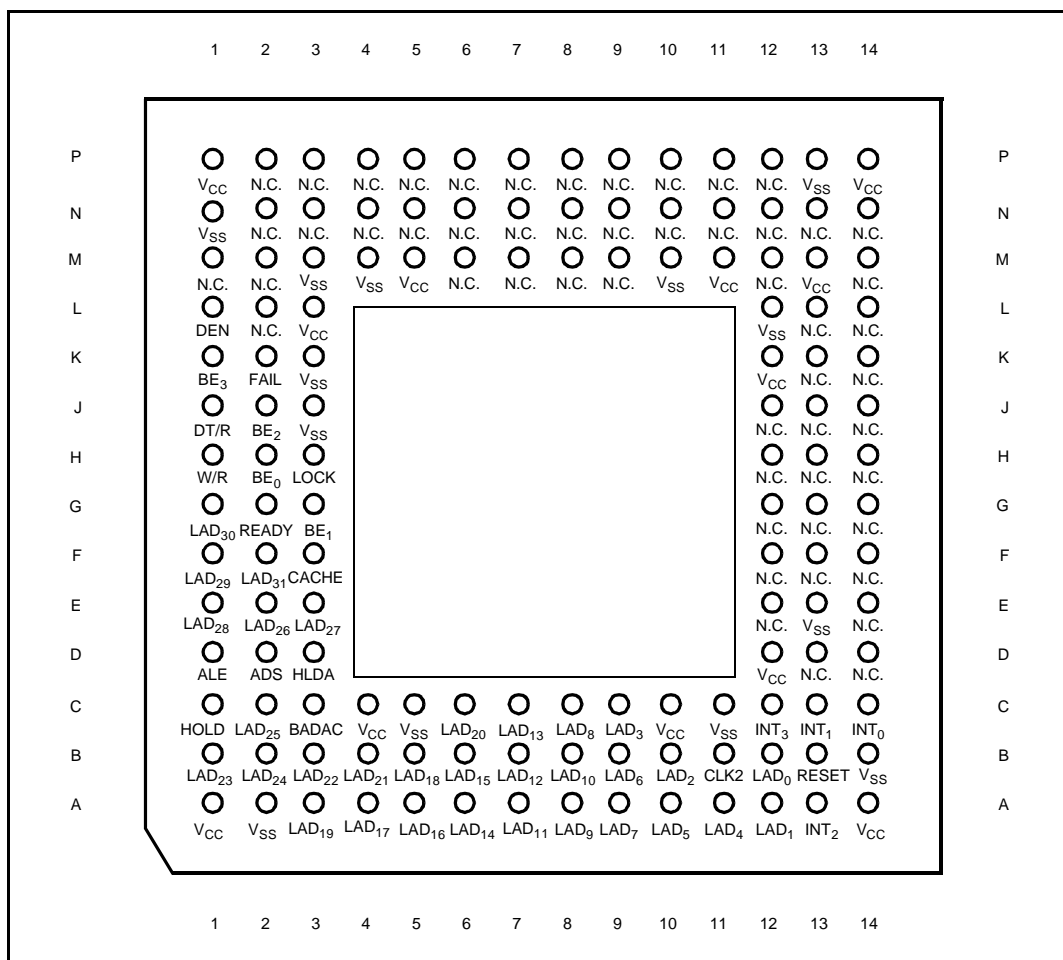
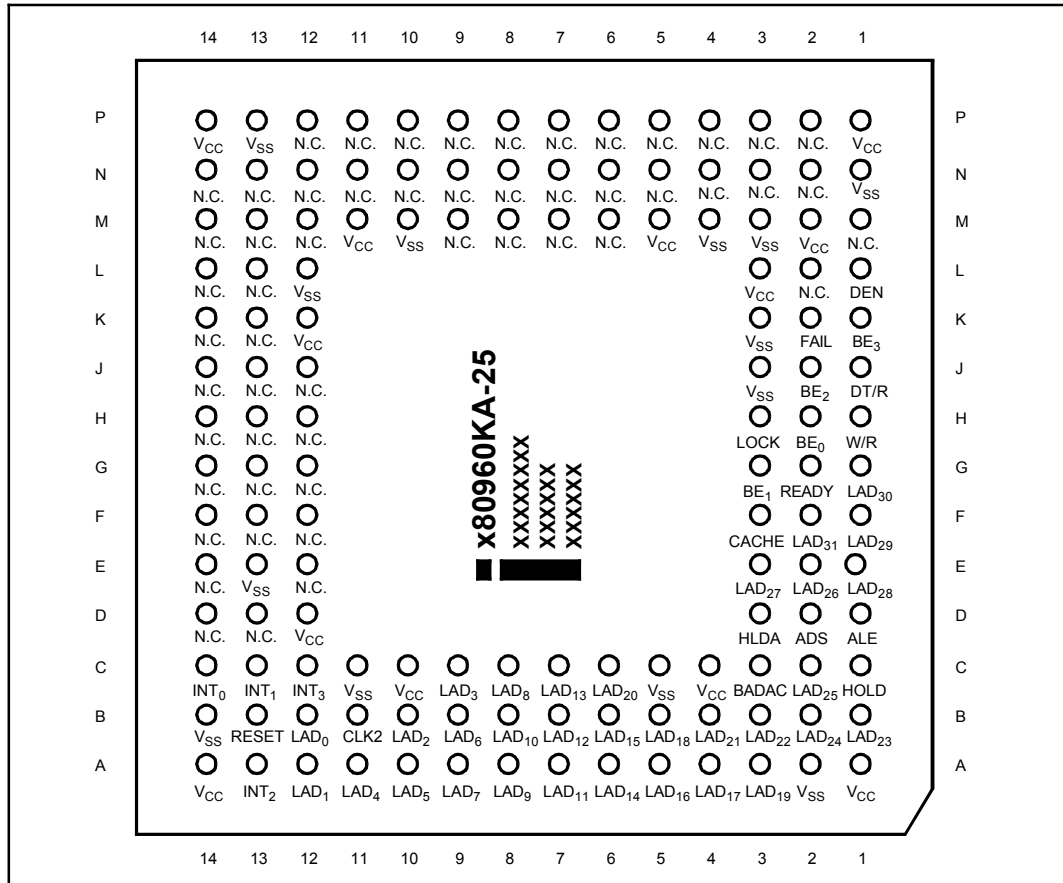
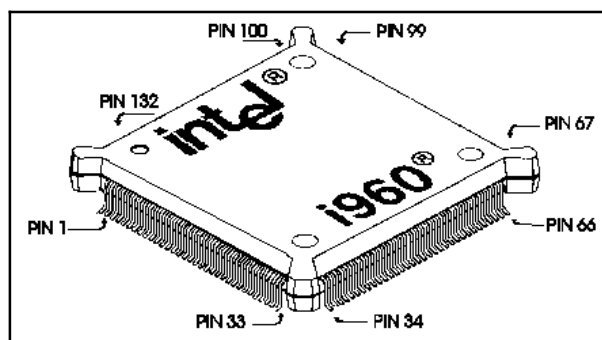
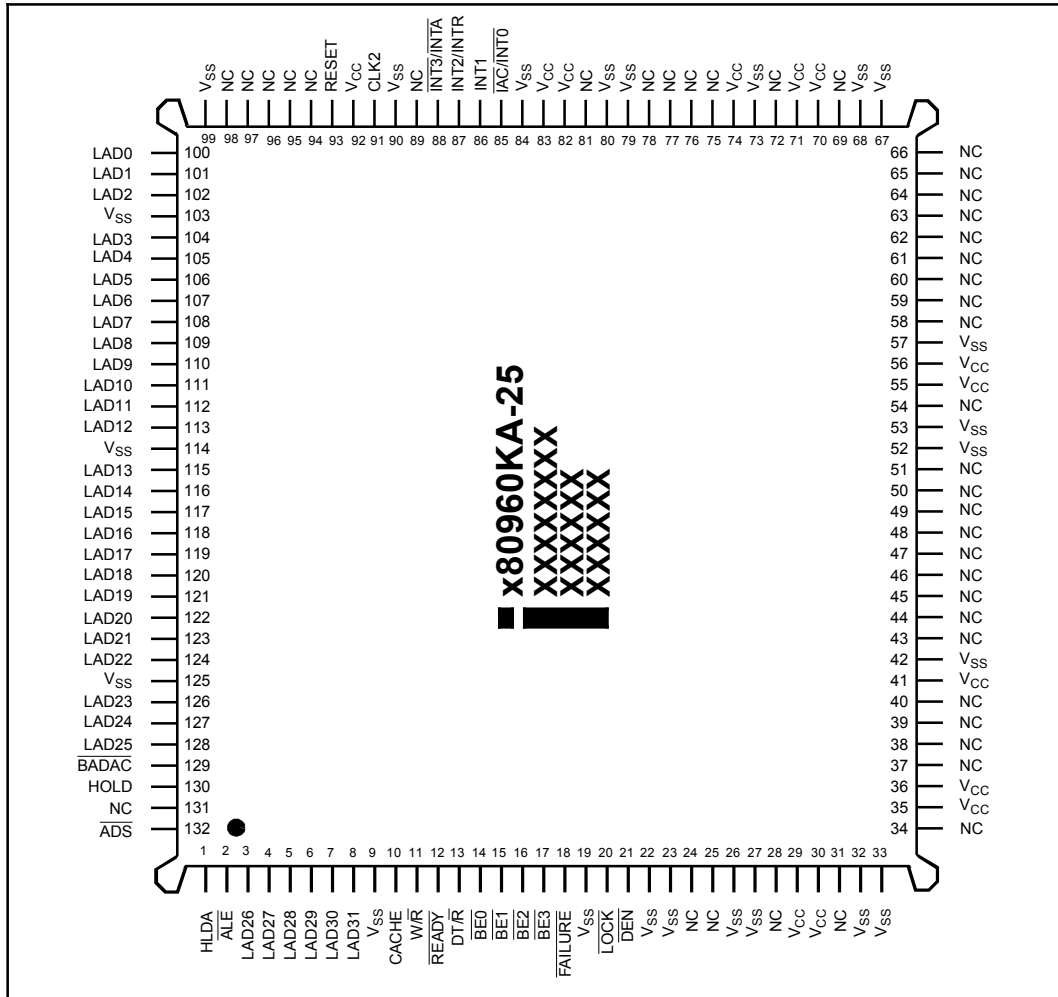

Figure 18. 80960KA PGA Pinout—View from Bottom (Pins Facing Up)
Figure 19. 80960KA PGA Pinout—View from Top (Pins Facing Down)
Figure 20. 80960KA 132-Lead Plastic Quad Flat-Pack (PQFP) Package
Figure 21. PQFP Pinout - View From Top
- 132-lead plastic quad flat pack (PQFP). This package uses fine-pitch gull wing leads arranged in a single row along the package perimeter with 0.025 inch (0.64 mm) spacing (see Figure 20).
The PGA and PQFP have different pin assignments. Figure 18 shows the view from the PGA bottom (pins facing up) and Figure 19 shows a view from the PGA top (pins facing down). Figure 20 shows the PQFP package; Figure 21 shows the PQFP pinout with signal names. Notice that the pins are numbered in order from 1 to 132 around the package perimeter. Table 9 and Table 10 list the function of each PGA pin; Table 11 and Table 12 list the function of each PQFP pin.